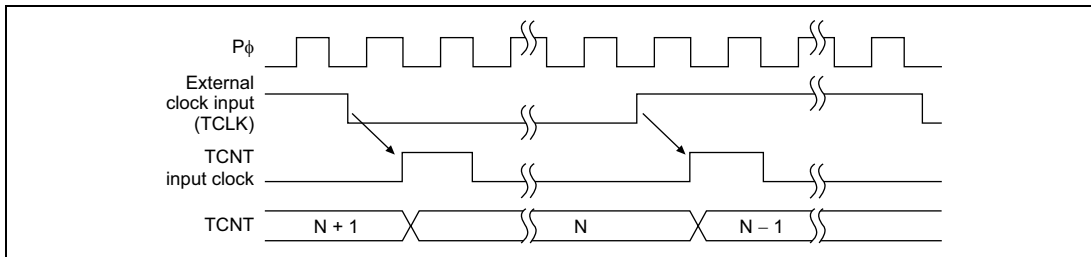

Figure 12.5 Count Timing when External Clock Is Operating (Both Edges Detected)
- External Clock Operation: Set the TPSC2 to TPSC0 bits in TCR to select the external clock (TCLK) as the timer clock. Use the CKEG1 and CKEG0 bits in TCR to select the detection edge. Rise, fall or both may be selected. The pulse width of the external clock must be at least 2 peripheral module clock cycles ($P\phi$) for single edges or 3 peripheral module clock cycles ($P\phi$) for both edges. A shorter pulse width will result in incorrect operation. Figure 12.5 shows the timing for both-edge detection.